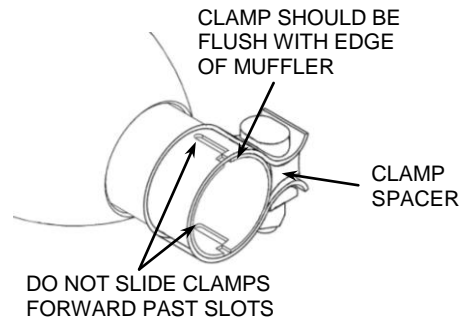

FIGURE 2
7. Check all clearances and alignments then tighten the clamps. (NOTE: The muffler clamps should be flush with the end of the muffler when tightened. See **Figure 2**. If the muffler clamps are slid forward past the slots on the slip collar the clamps will not tighten the mufflers properly. Also, make sure the clamp spacer is not over the slots. The slots need to be covered by the clamp band so that it seals the slots properly. Rotate the clamp if necessary).